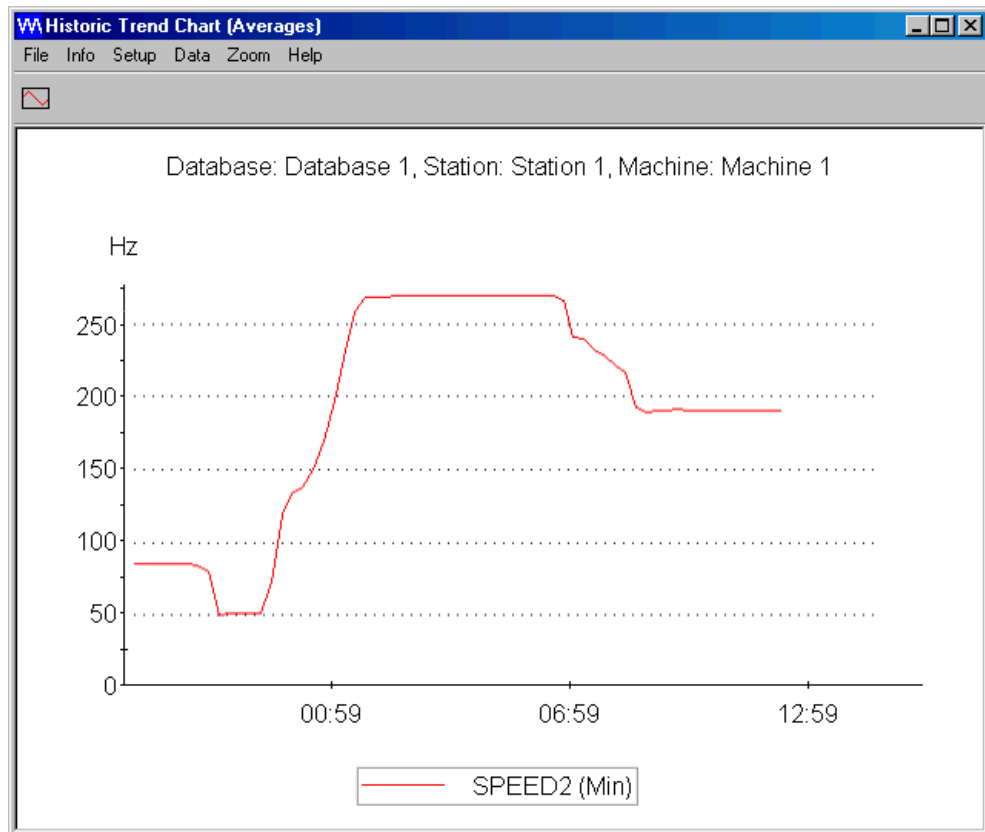

Figure 8-9: Typical window for a Historic Trend Chart (Averages)
- 5- Click the **Display** button to obtain the Historic Trend Chart (Averages) window (Figure 8-9).